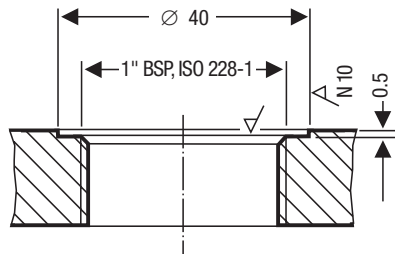

Fig. 4
5. Check seating surfaces of threads or flange provided on vessel or boiler standpipe, **Fig. 4**
- The seating surfaces of the threads or flange provided on the vessel or boiler standpipe must be accurately machined. **Fig. 4**